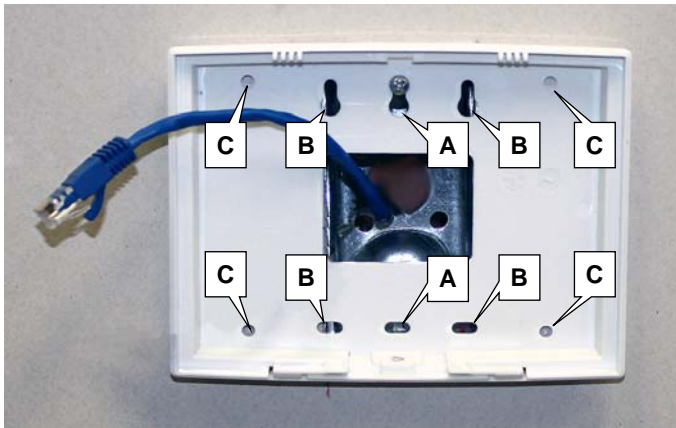

Fig. 3: Rear housing mounting holes for single-gang (A) and double-gang (B) electrical boxes, and four all-purpose holes (C)
As shown in Fig. 3, the rear housing includes two mounting holes for single-gang (A) and four mounting holes for double-gang (B) electrical utility boxes, as well as four all-purpose holes (C) for mounting to dry-wall or other surfaces.